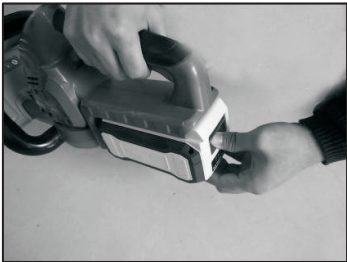

Fig.2C
1. Press and hold the battery latch button at the bottom of the battery pack. (Fig.2C)